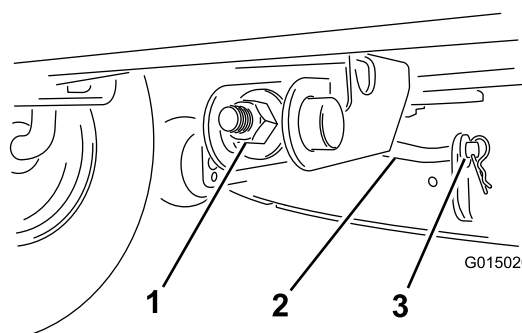

Figure 36
6. Remove the hairpin cotter and washer from the front support rod (Figure 36), and carefully lower the front of the mower deck to the ground.
10. Attach the front support rod to the mower deck with the washer and the hairpin cotter (Figure 36).